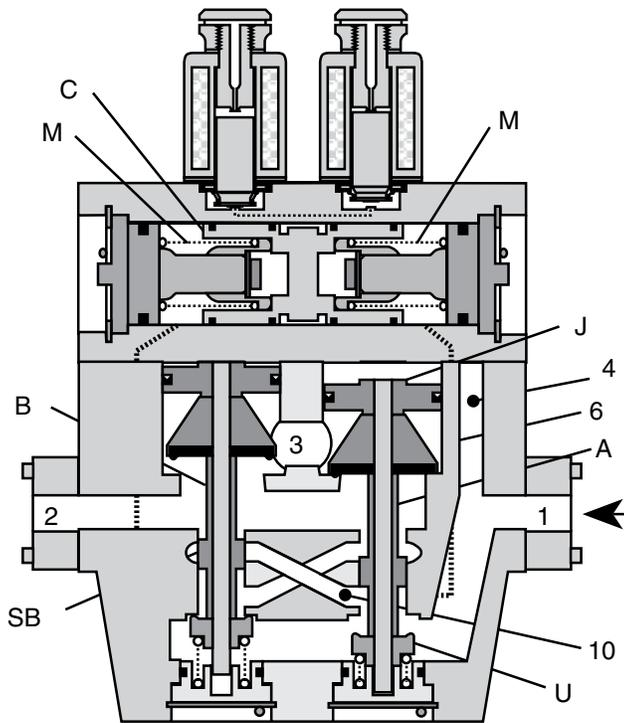

Figure 3 — Valve in Faulted Condition
If conditions do not allow one of the main valve elements to be shifted, or do not allow one of the elements to return to its normally closed position upon deactuation, we have the condition depicted in Figure 3 — one valve element closed and one open. Inlet air flowing past open poppet U and into crossflow passage 10 is practically blocked by spool SB on valve element B. Although some air can pass around spool SB, the amount is so small, and the exhausting capacity of the valve so large, that the pressure at outlet 2 does not exceed two percent of inlet pressure.
**Valve Exhaust 3.** **DO NOT RESTRICT EXHAUST.** Limiting the exhausting speed decreases an important safety feature of the double valve. During a malfunction in which only one of the valve elements is shifted, air escaping past the spool in the valve stem of the closed valve element (see Figure 3) must be quickly exhausted to keep outlet pressure at or below the design pressure of two percent of inlet pressure. See *Undersize or Plugged Silencer*, page 11.